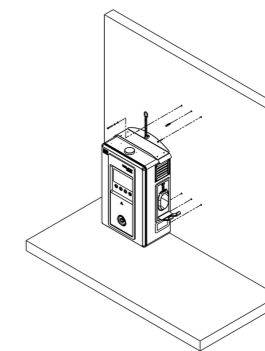

Figure 4.5: Attachment example
- Insert the six (06) plastic plugs with a Ø 10x50 mm [0.39x1.39 in] diameter into the holes.
- Start the attachment from the bottom part of the structure, using the three (03) existing points, with three (03) M6 hex head bolts, as shown in Figure 4.5.